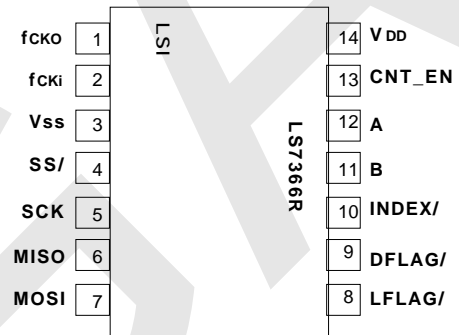

FIGURE 1
- 8-bit instruction register (IR).
- See Figure 1 -